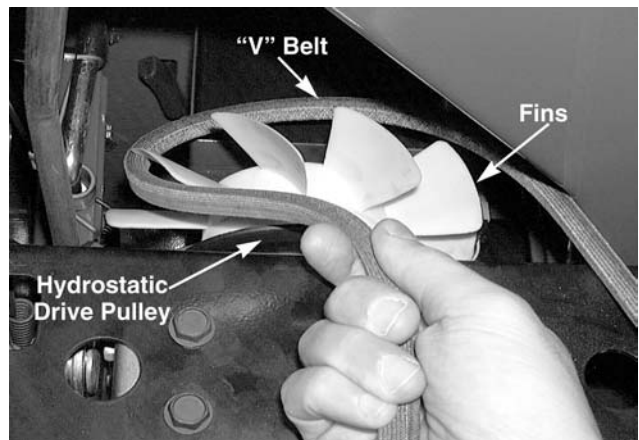

Figure 9-46
15. Remove the "V" belt from around the hydrostatic drive pulley. See Figure 9-46.